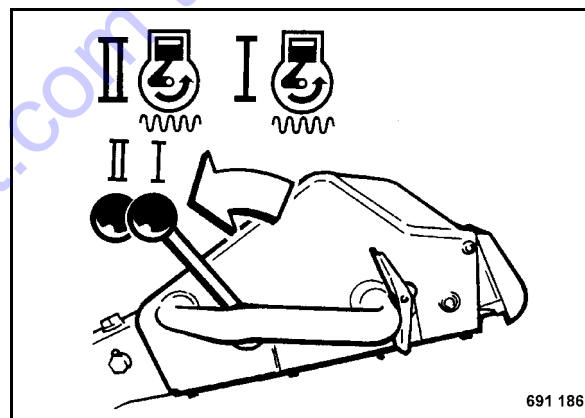

Fig. 32
- Set the throttle lever (Fig. 32) to one of the two possible vibration positions.